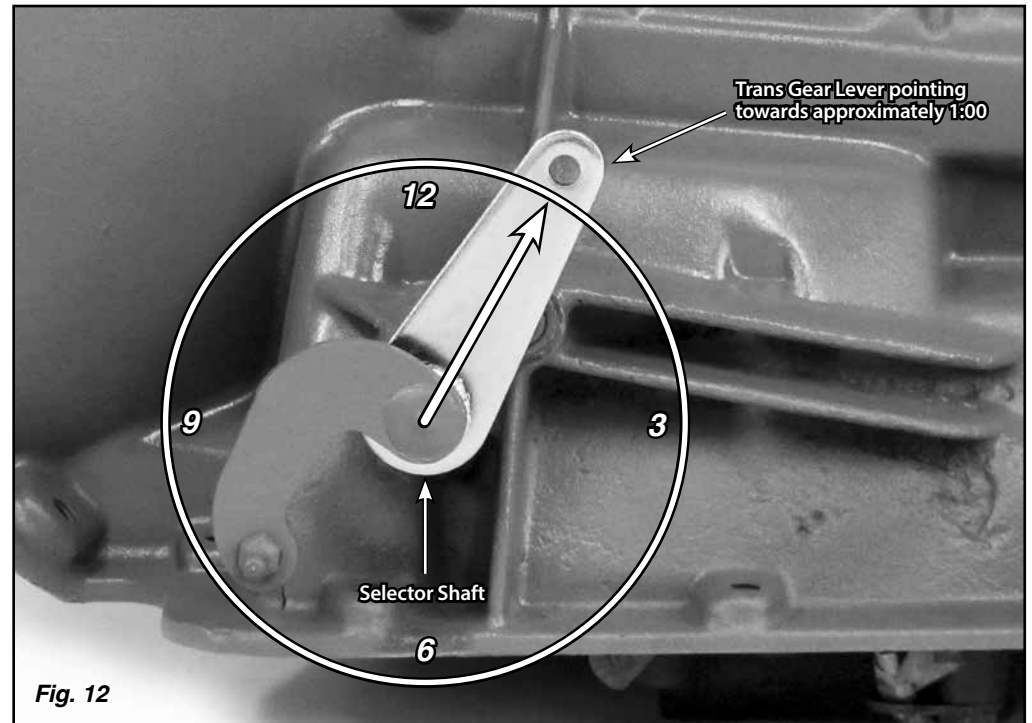

Fig. 12
Step 17: Remove the rod end from the new trans gear lever. Place the trans gear lever in the Park position. The top of the trans gear lever should be pointing up and slightly towards the rear of the transmission, at about the 1:00 position. **Fig. 12**